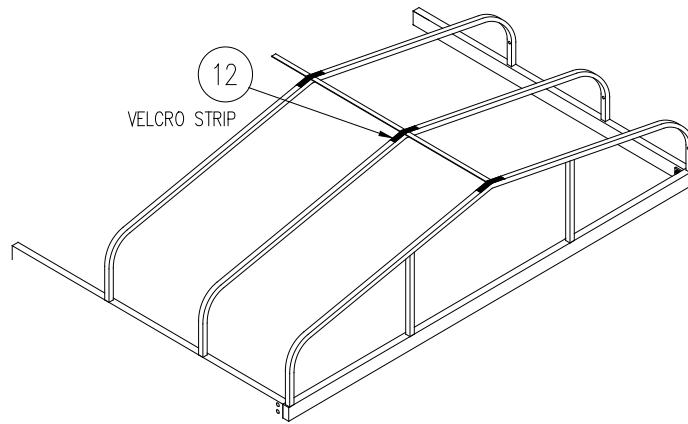

Figure 2-6.
9. Refer to **Figure 2-6**. Clean the top of the canopy ribs and carriage bolt head (about 2 inches each side of bolt) with cloth dampened in rubbing alcohol. Allow surface to dry.